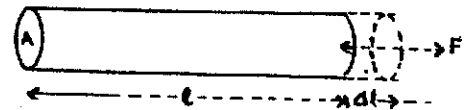

Fig.8.6: Linear strain
- (i) **Linear strain** : If on application of longitudinal deforming force length  $l$  of the body changes by  $\Delta l$  (Fig. 8.6) then